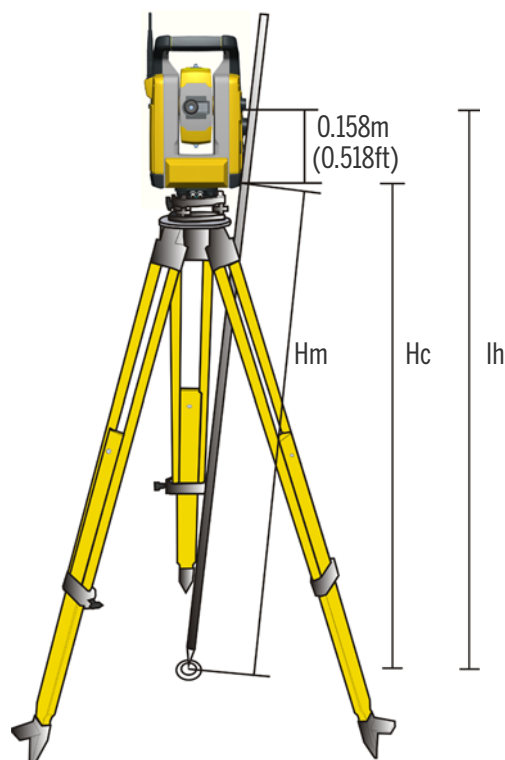

Figure 3.18 Instrument height measurement
When there is a TSC3 attached running a field application software, the software has additional functions that reduce the bottom mark measurement to the required vertical instrument height to the trunnion axis, see Figure 3.18 and the following paragraph.
1. Set up the instrument and level it over a ground mark so that the tripod height is 1.5 m (± 0.1 m) (4.920 ft. (± 0.328 ft.)) as shown in Figure 3.18